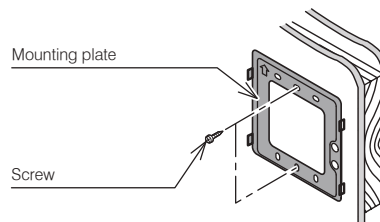

Figure 7-3: Wiring exposed
1. Fix the mounting plate to a solid position on the wall with the two screws provided (refer to Figure 7-3).